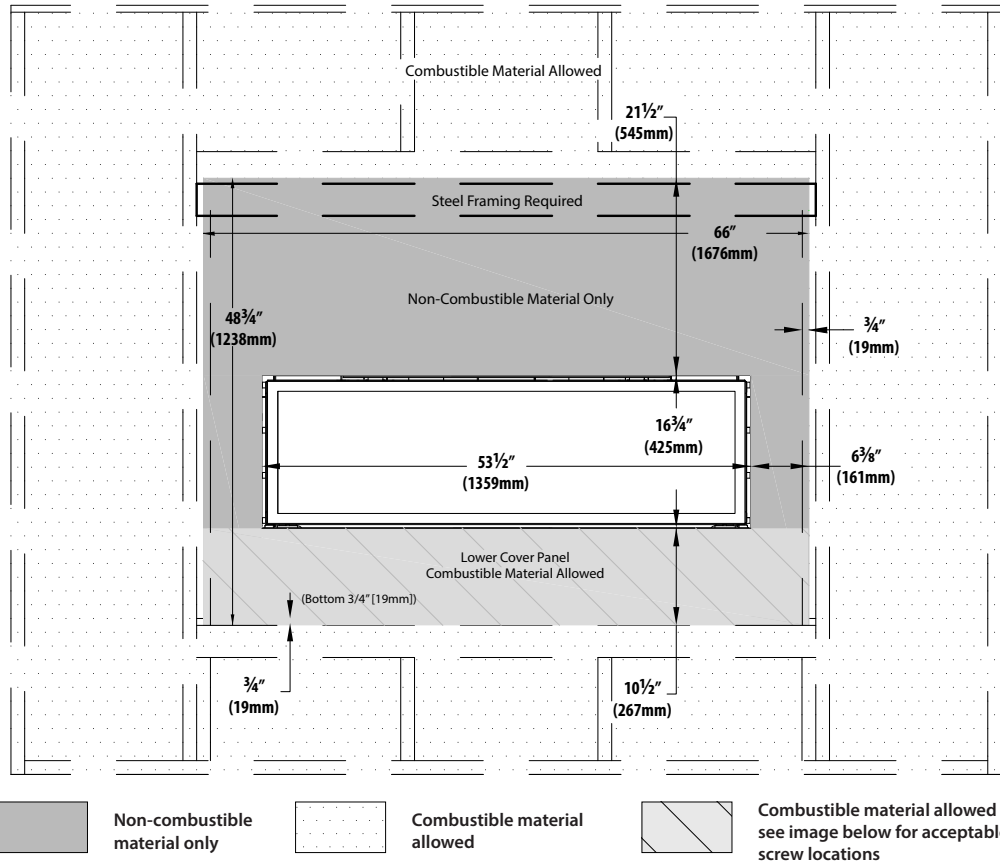
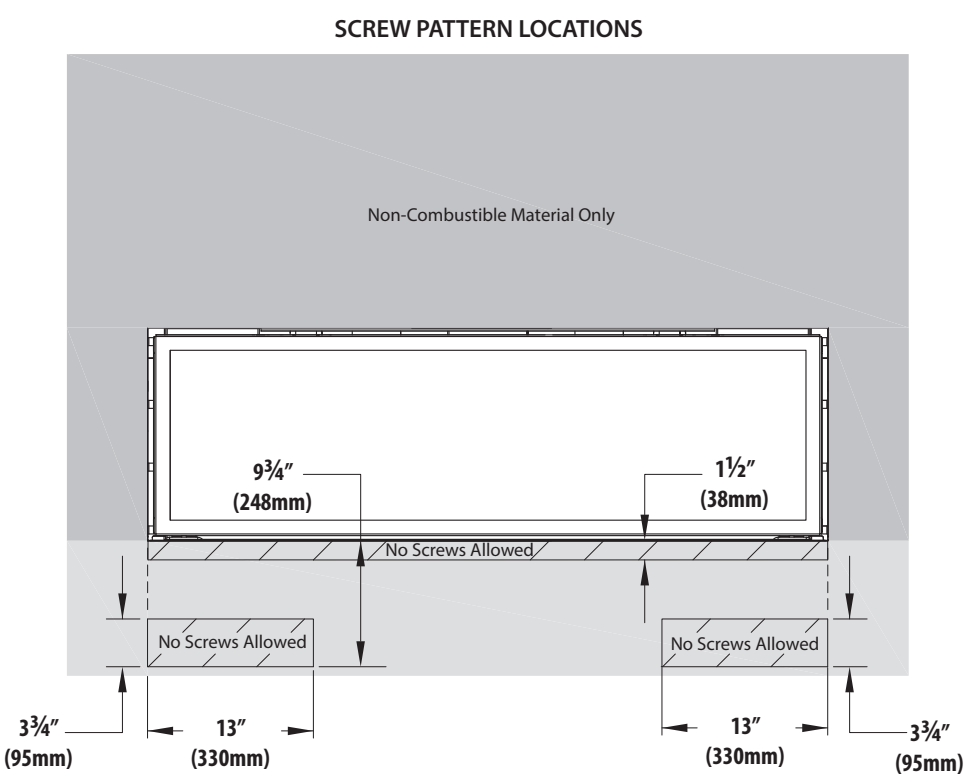

Figure 4.3, Minimum Non-Combustible Finishing Dimensions for all installations
Figure 4.4, Minimum Non-Combustible Finishing Dimensions Screw Locations for all installations
Non-combustible material is required at the top of the fireplace. This fireplace is designed to accommodate non-combustible facing material up to 3/4" (19mm) thick. See Figure 4.3 and Figure 4.4 on page 30 for facing and finishing material dimensions.
- It is acceptable to pre-drill holes and to use self-tapping screws prior to attach the non-combustible material to the top and sides of the fireplace face. Do not use excessively long screws. Screws can only penetrate the fireplace outer shell up to 1/2" (13mm) in the allowed areas. See Figure 4.3 and Figure 4.4 on page 30.
3. Do not use screws above the framing for the gas and electrical components when installing the bottom panel. See Figure 4.3, Minimum Non-Combustible Finishing Dimensions for all installations on page 30 for maintaining required areas.
- Non-combustible material is required at the top and sides of the fireplace. This fireplace is designed to accommodate non-combustible facing material up to 3/4" (19mm) thick. See Figure 4.3 and Figure 4.4 on page 30.
- It is acceptable to pre-drill holes and to use self-tapping screws prior to attach the non-combustible material to the top and sides of the fireplace face, screws can only penetrate the fireplace outer shell up to 1/2" (13mm) in the allowed areas. See Figure 4.4 on page 30.
- This combustible material goes on any required non-combustible materials as shown in Figure 4.3 and Figure 4.4 on page 30.